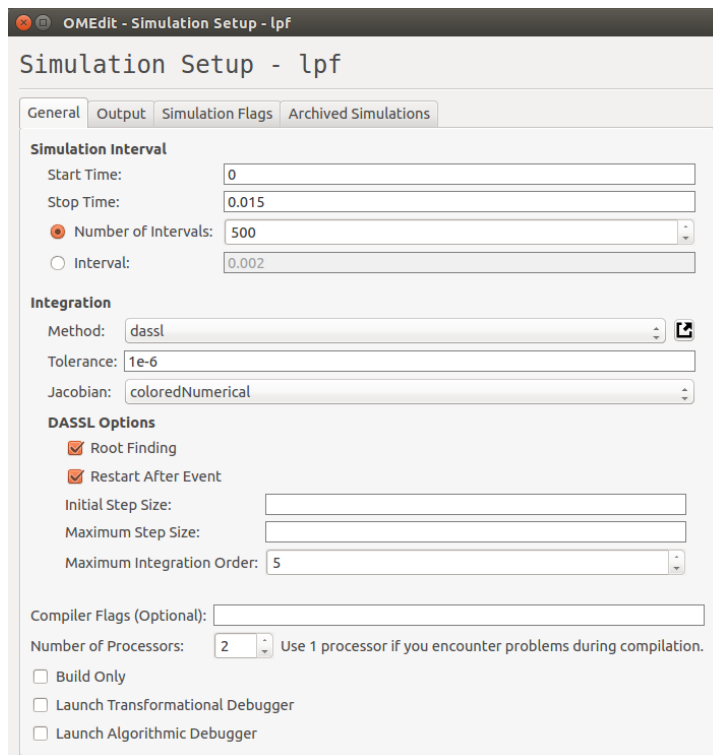

Figure 11.6: OpenModelica: Simulation setup
6. Click on Simulation Setup on the toolbar at the top. A window opens as shown in Fig. 11.6. Give start and stop time. Click OK.